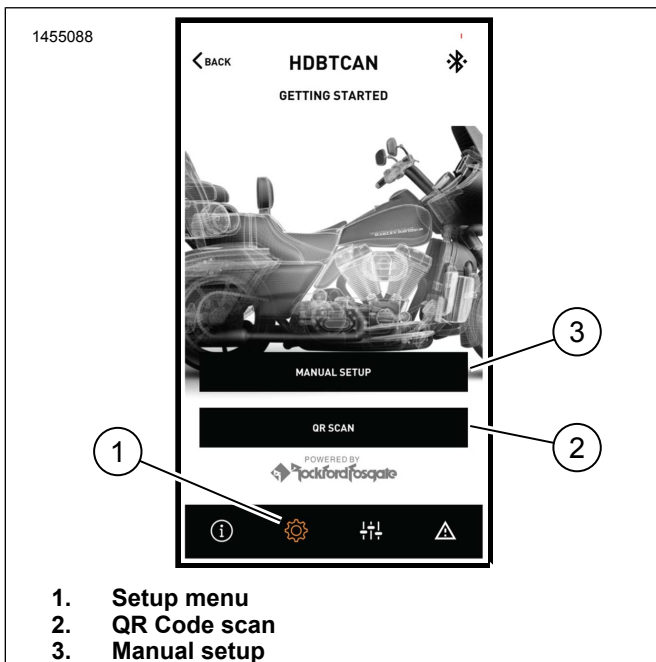

Figure 12. Setup Menu
3. Figure 12 Setup menu screen.
- Setup menu icon (1).
- Use to scan QR code (2) on iSheet.